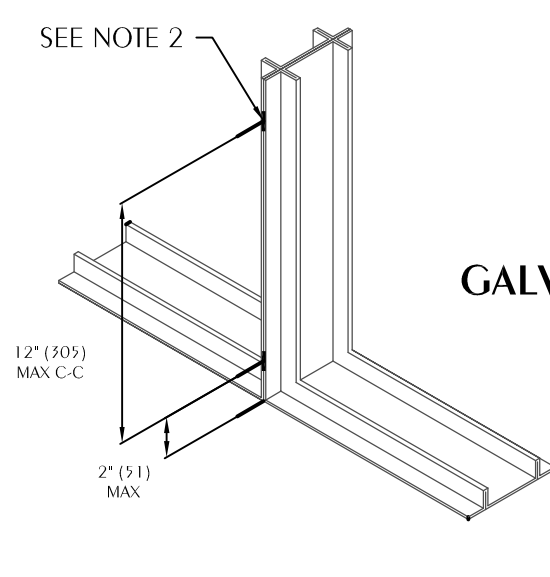

FIGURE 3
Use No. 10 (MS) bolts or screws, 3/16" (5) rivets, rack welds on spot welds as depicted in figures 3 and 4 and spaced as follows when joining individual dampers to make multiple section damper assemblies or when fastening damper to the sleeve: